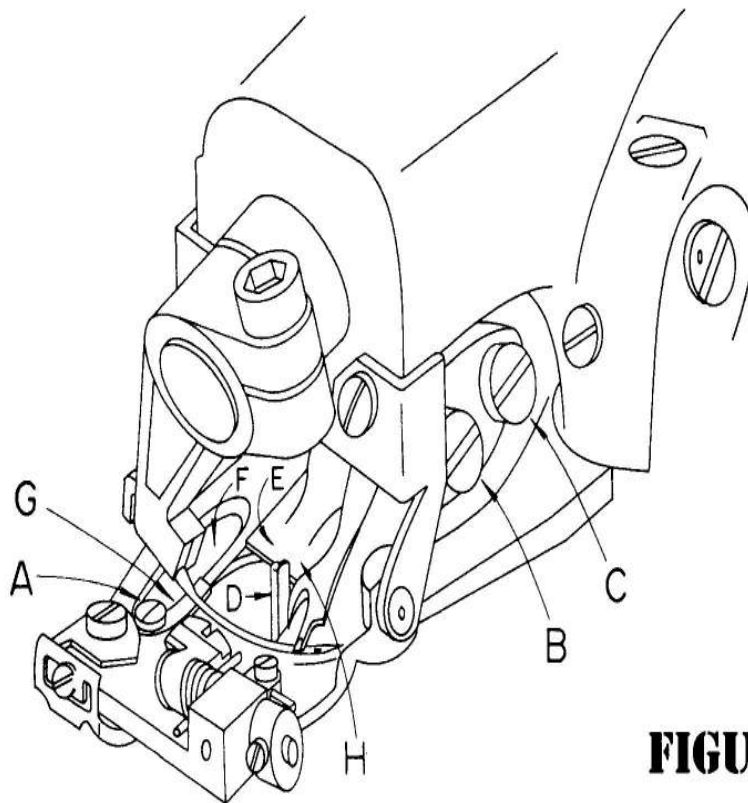
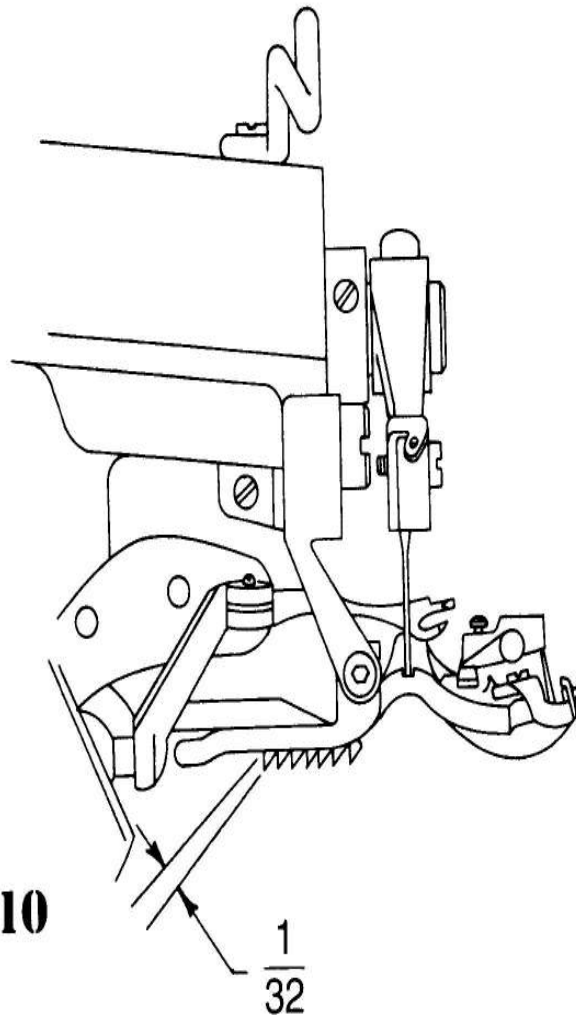

FIGURE 9
FIGURE 10
9. After all the necessary adjustments have been made, tighten all set screws and the lock nut and recheck all the adjustment points. Referring to **Figure 9**, the looper should now clear the chain-off pin ("D"), feeder ("E"), looper slot ("F"), needle, and pass over the needle in the correct position to pick up the loop.
1. After considerable service, it may be expected that the wearing action of the needle will cause a sharp edged groove to form on the needle guide (**item "G" in Figure 9**).
2. Loosen the needle guide attaching screw (**item "A" in Figure 9**) and remove the worn needle guide. Clear out any lint or dirt that may have accumulated under the old guide and insert the new guide. Insure that the new guide is seated flush with the top and side of the presser foot and then retighten the attaching screw. Slowly turn the handwheel in the direction away from the operator and check to insure that the new guide fits properly under the needle and that no interference has been introduced between the guide and the looper.
1. In the event that the machine develops difficulty by failing to properly feed the work, a worn feeder is frequently found to be the cause. After considerable service, especially with certain hard fabrics, the feeder teeth have a tendency to become dull, and the feeder should be replaced. In order to remove the old feeder, remove the front feeder attaching screw (*item "B" in Figure 9*) and loosen the rear feeder attaching screw (*item "C" in Figure 9*). The old feeder may then be slid out of place. Insert the new feeder under the rear screw and replace the front screw.
2. Before tightening the attaching screws check to see that the feeder is set to the proper depth. Referring to **Figure 10** this should be approximately $\frac{1}{32}$ " (.795mm) below and parallel to the bottom of the presserfoot for all light and medium weight fabrics. For heavy fabrics, the setting should be approximately $\frac{1}{16}$ " (1.59mm) below and parallel to the bottom of the presserfoot. These dimensions are intend as guides and may be modified as required by the specific fabrics. Once the proper depth is established, rotate the handwheel slowly in a direction away from the operator and check to insure that the feeder clears the looper (*see Figure 9, Point "H"*) and also clears both sides of the feeder slot in the presserfoot. Firmly tighten fee attaching screws (**Figure 9, Items "B" & "C"**) before resuming sewing.